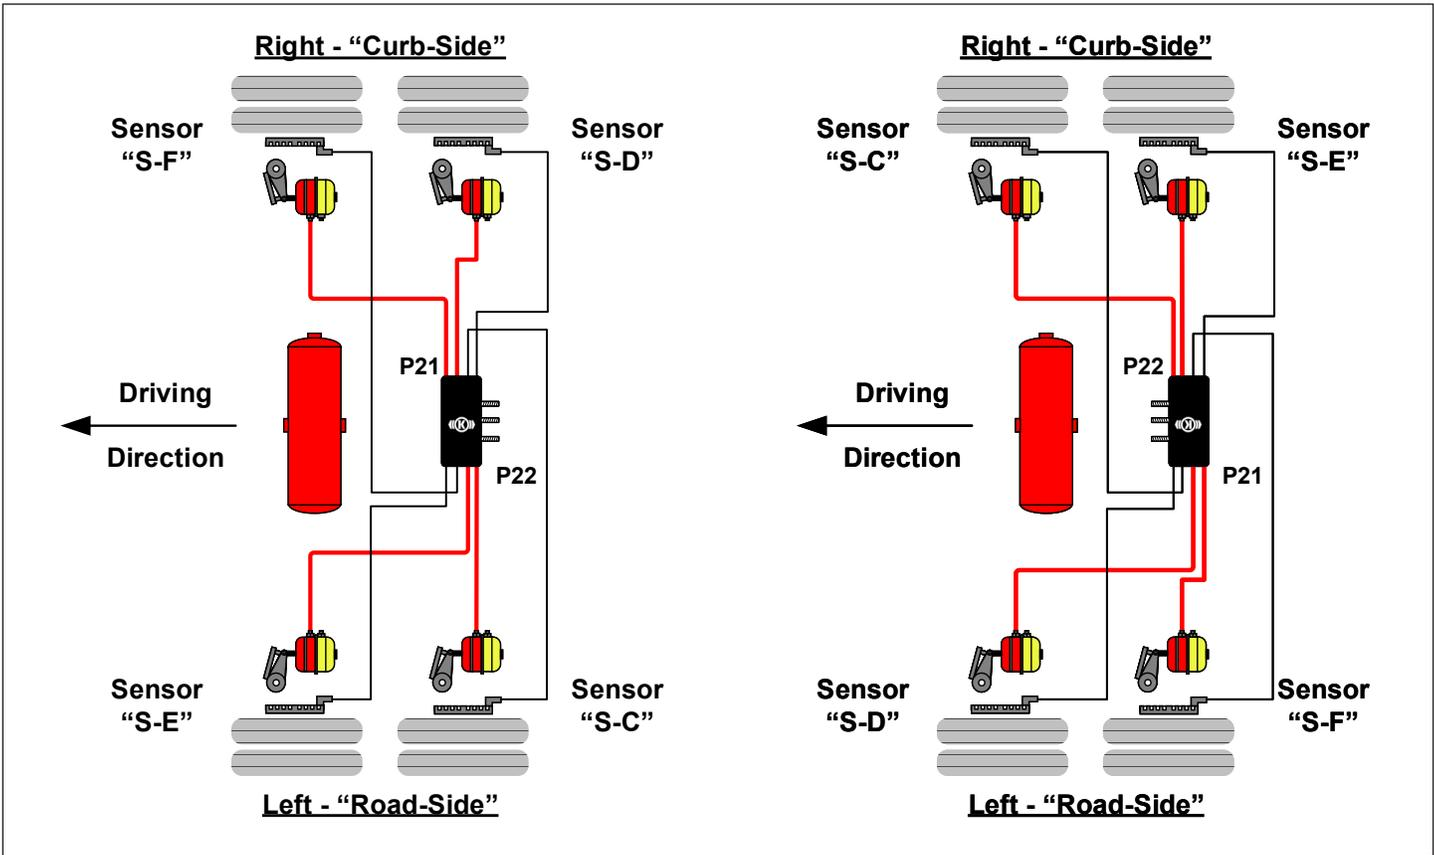

Figure 18 – WSS Locations
NOTE: The WSS must follow the orientation of the module as shown in *Figure 18* for fixed-axle trailers. Where a lift axle is present, and sensors are to be installed on that axle, secondary sensors “SE” and “SF” must be used for the lift axle.
- If the WSS location does not match the orientation of the TABS-6 ADV MC module shown in *Figure 18*, a DTC will be generated and the ABS indicator lamp will be illuminated.
- Refer to the raised lettering on the casting body, or see *Figure 18*, for WSS locations, “S-C,” “S-D,” “S-E,” and “S-F.”